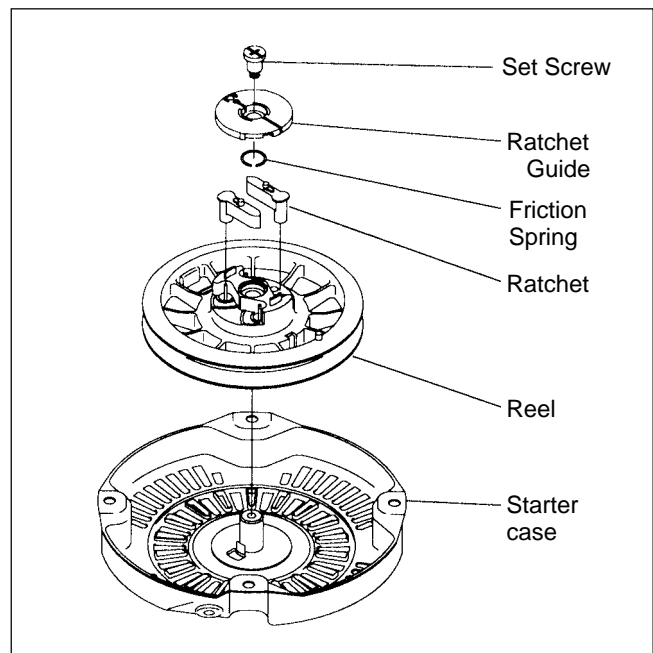

Fig. 10-2
(2) Remove the component parts (Fig.10-2)
(3) Remove the reel (Fig.10-2)